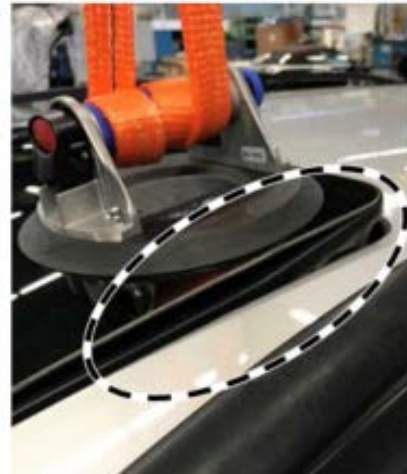

Figure 5 (**NOT OK**)
- i** If the sliding roof panel detaches from the padding of the tilting/sliding roof frame at one of the test positions (**see figure 5**), the sliding roof panel must be replaced.